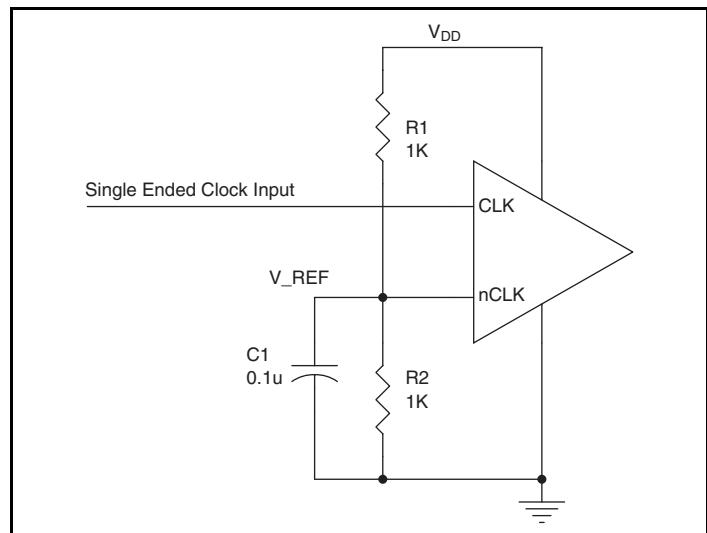

Figure 2. Single-Ended Signal Driving Differential Input
*Figure 2* shows how the differential input can be wired to accept single ended levels. The reference voltage  $V_{REF} = V_{DD}/2$  is generated by the bias resistors  $R1$ ,  $R2$  and  $C1$ . This bias circuit should be located as close as possible to the input pin. The ratio of  $R1$  and  $R2$  might need to be adjusted to position the  $V_{REF}$  in the center of the input voltage swing. For example, if the input clock swing is only 2.5V and  $V_{DD} = 3.3V$ ,  $V_{REF}$  should be 1.25V and  $R2/R1 = 0.609$ .